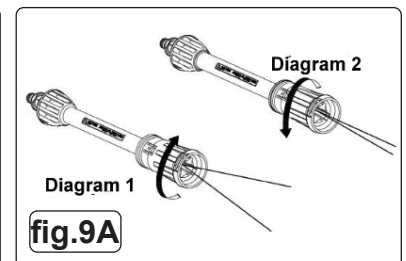

fig.9A
- 6.2.2. Rotate Adjustable nozzle collar, fig.9A, to change it from a full fan spray (diagram 1) to a direct stream spray (diagram 2).